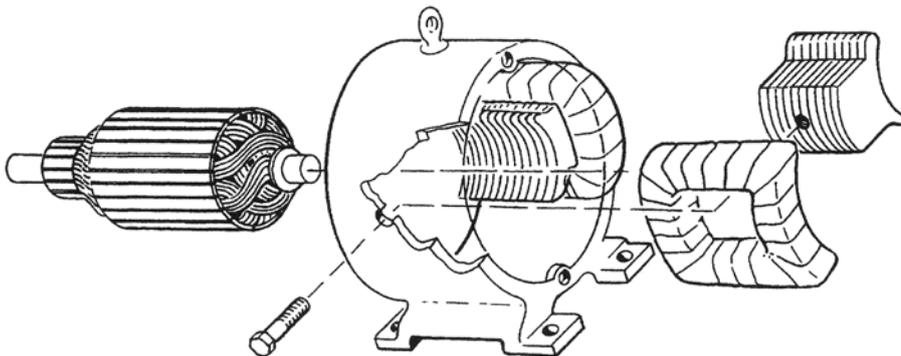

Figure 1
- For the diagram of figure 1, label the following: